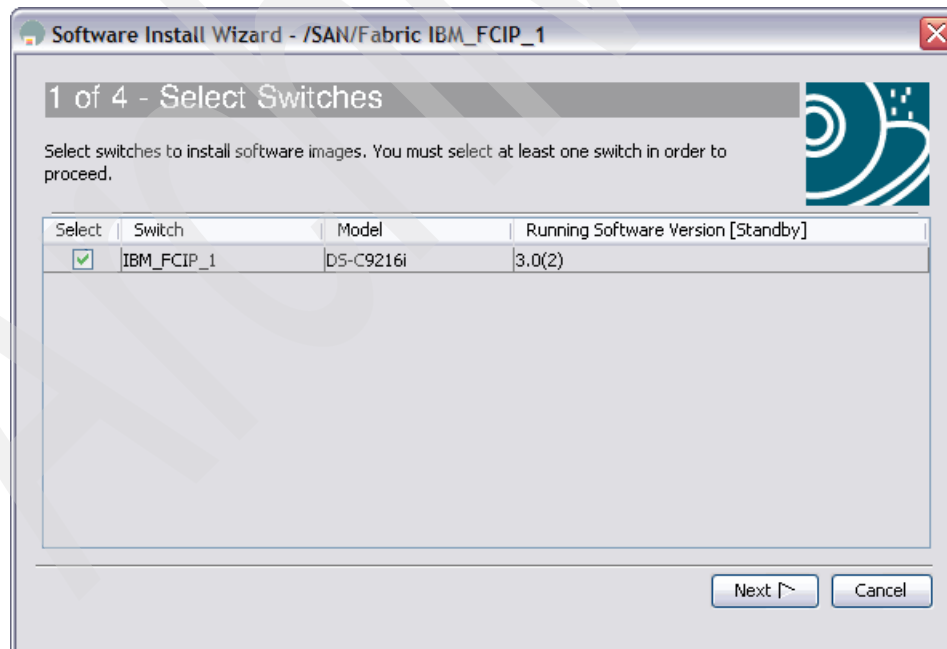

Figure 11-17 FM software update 1 of 4
8. The first panel of the wizard asks you to select the switches you want to upgrade, as shown in Figure 11-17. Select your switch or switches and click **Next**.